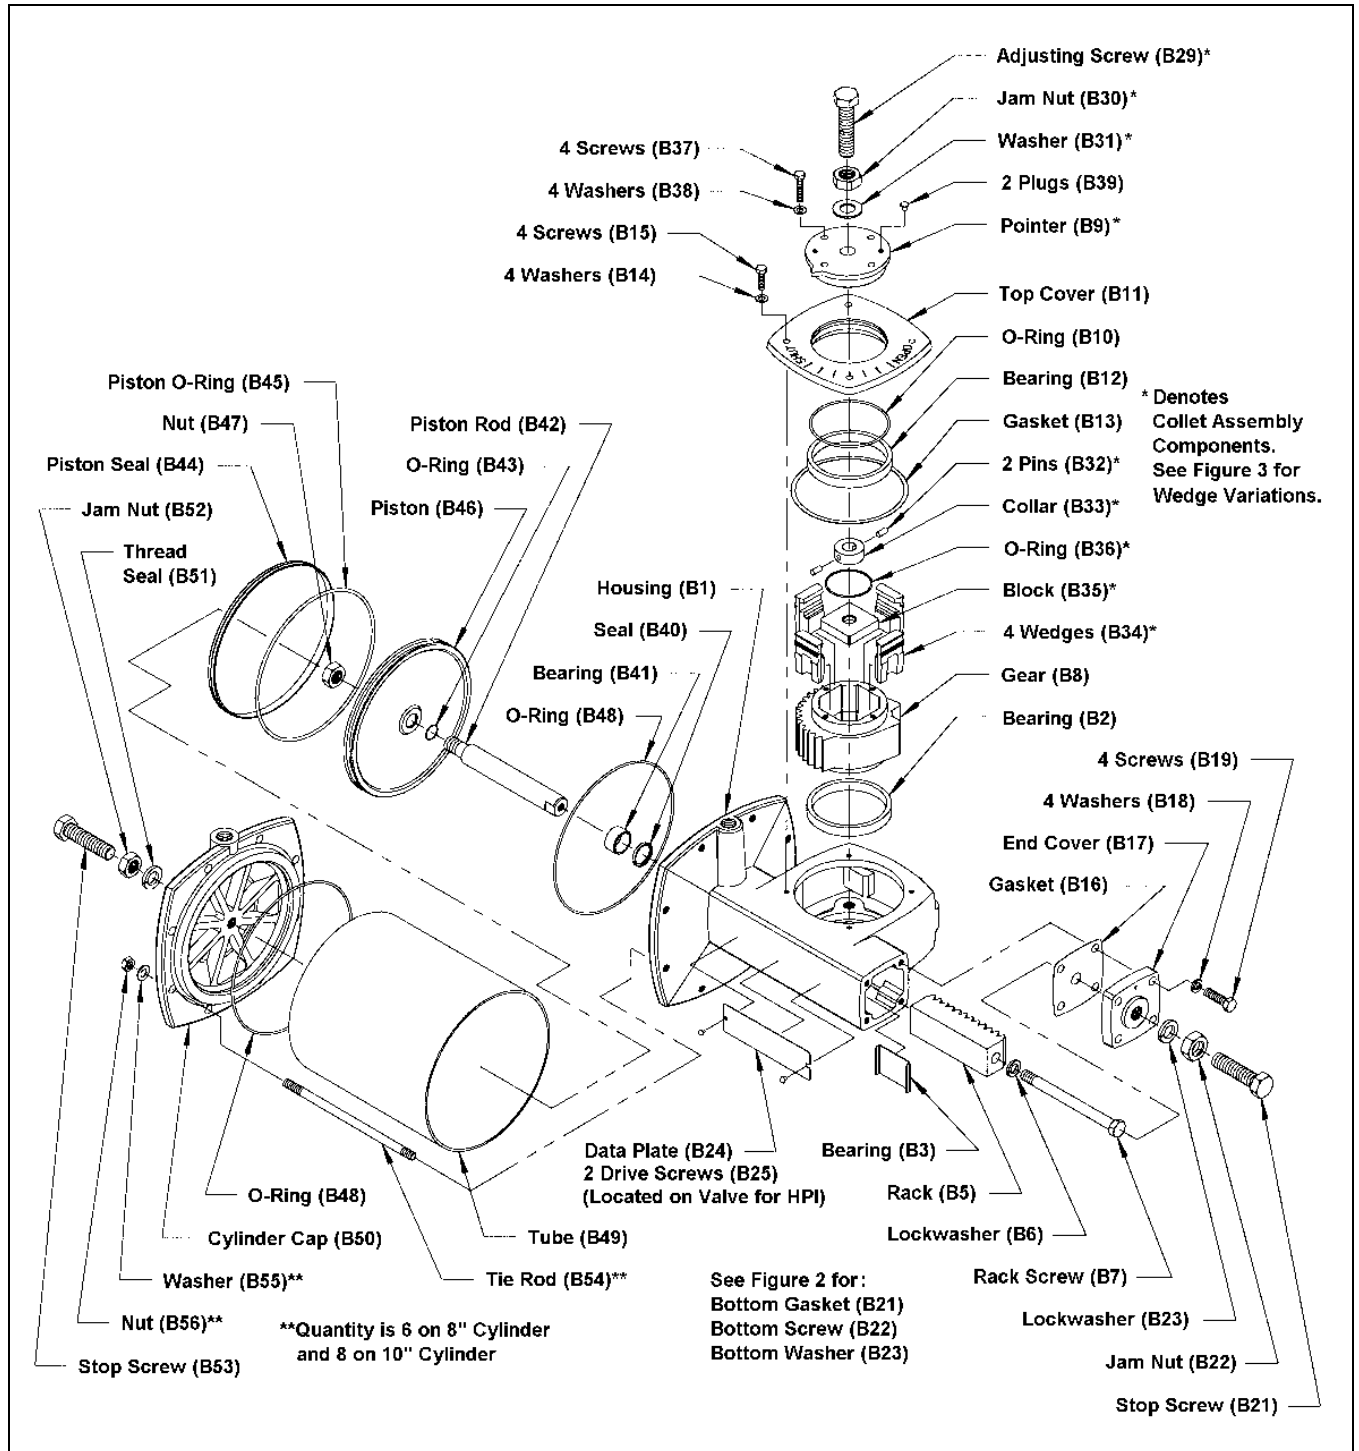

Figure 1 - Component Identification, Unassembled
The adjustable stop screws are secured with jam nuts, and are located in the extreme ends of the actuator as shown in Figures 1 and 2. The closed position stop is located in the cylinder cap, and the open position stop is located in the end cover. To adjust either stop screw, loosen the jam nut and turn the screw counterclockwise to increase the stroke, or clockwise to decrease the stroke. After the stop is adjusted to the desired position, hold the screw from turning, and tighten the jam nut.
Refer to Figures 1 and 2 for component identification.
1. Remove the four pointer screws (B37) and washers (B38); remove the pointer (B9), together with the other collet assembly components indicated in Figure 1.
2. If the actuator does not include the collet assembly (the components are identified in Figure 1, grease the components as described in the *Actuator Reassembly* section and install the assembly as explained in steps 17 and 18 in the same section.